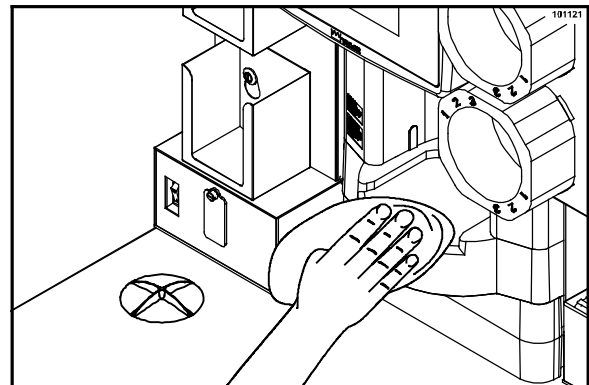

Figure 60
33. Using clean, sanitized towels and the spray bottle of sanitizing solution, wipe the exterior of the machine and the blend center, including the dispensing head and the rinse station. Discard the used towels. (See Figure 60.)